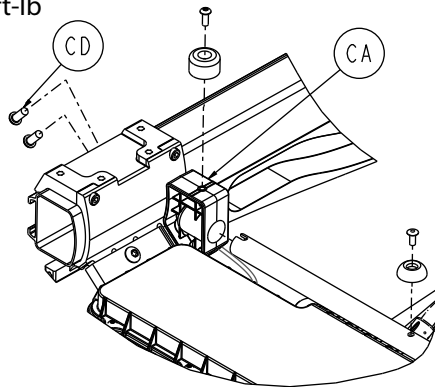

Figure 98 – Remove the Gatch bumper housing
7. Using a T27 Torx driver, remove the two button head cap screws (CD) that secure the Gatch bumper housing (CA) to the hitch bracket (Figure 98). Remove and save the Gatch bumper housing. Save the screws. Repeat on the other side.